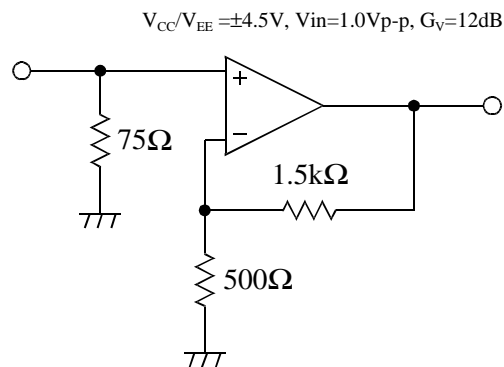

Figure 2: Application Example
An example of this application is shown in Figure 2 with the preventive measures explained below.
In Figure 2, if -0.5V (the minimum value of input amplitude) is given to the input, the output voltage will be set to -2.0V. Substitution of V_{in} and V_{out} into (4) gives